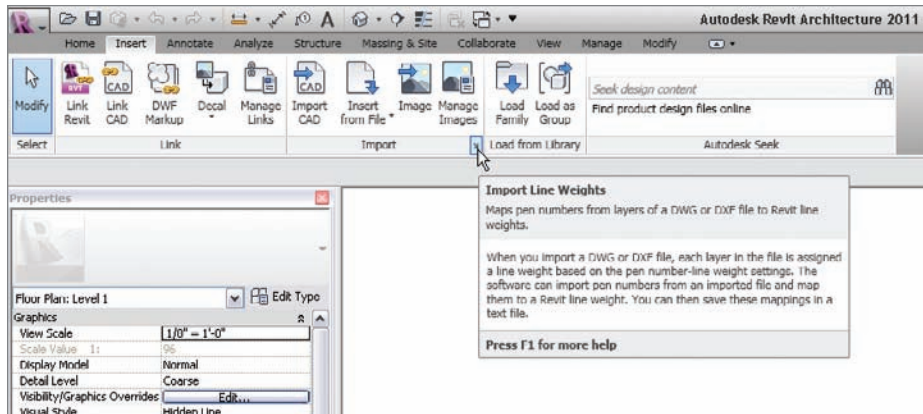

FIGURE 23.9 Clicking the down arrow on the Import tab
2. On the Insert tab, click on the down arrow in the lower-right corner of the Import panel, as shown in Figure 23.9.